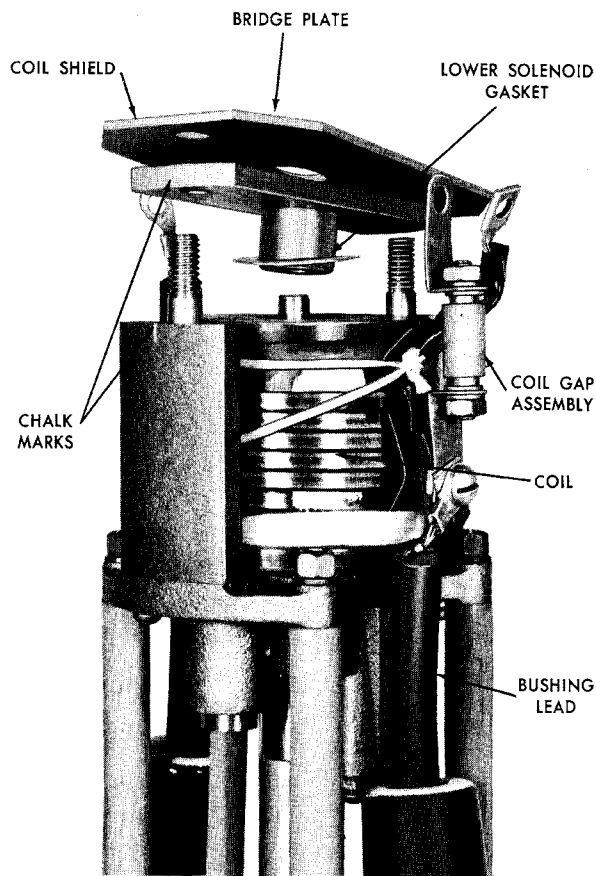

Figure 5. Changing coils
3. Lift off coil shield, bridge, and lower solenoid gasket as shown in Figure 5.
4. Disconnect bushing lead and coil gap assembly identified in Figure 5.